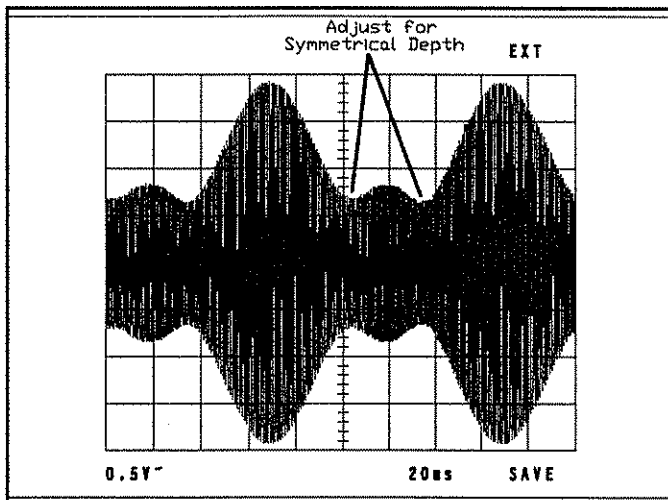

Figure 5-4.
- f. Input 10 kHz, 70% modulation, Left only signal, and observe the waveform at TP6. Adjust L5 and L6 for maximum amplitude, and symmetry of depth of trough in the envelope waveform. See Figure 5-4. Repeat test for a Right only signal, and re-adjust L5 and L6 for the best